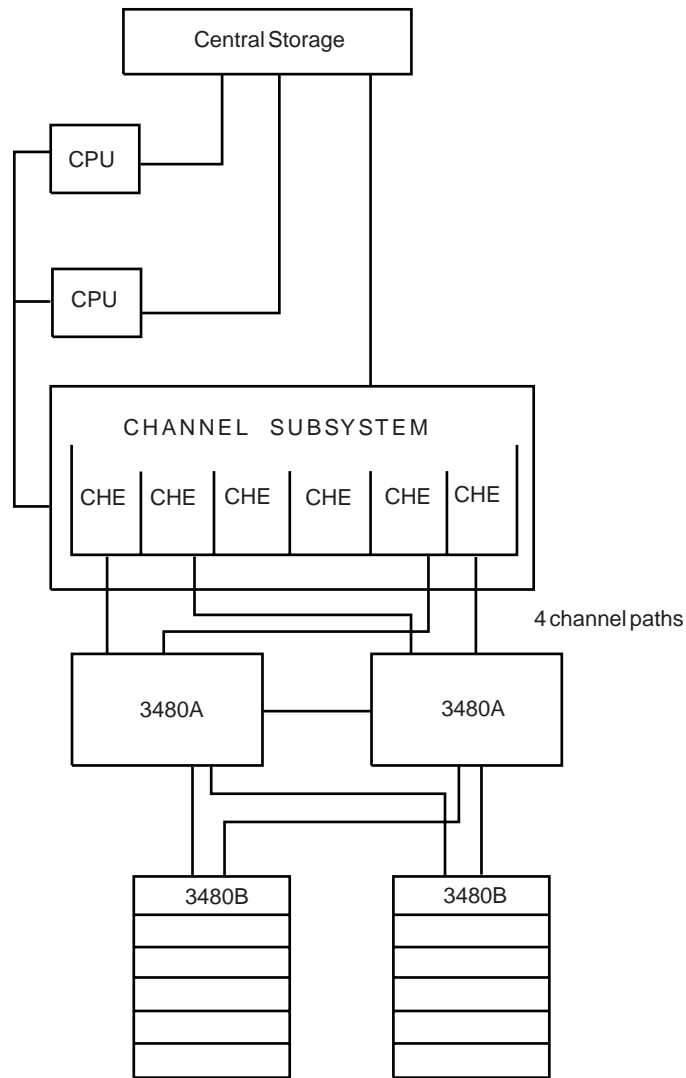

Figure 12-4. Tape Configuration for Maximum Availability (3090 Complex)
- Figure 12-4 on page 12-5: Tape